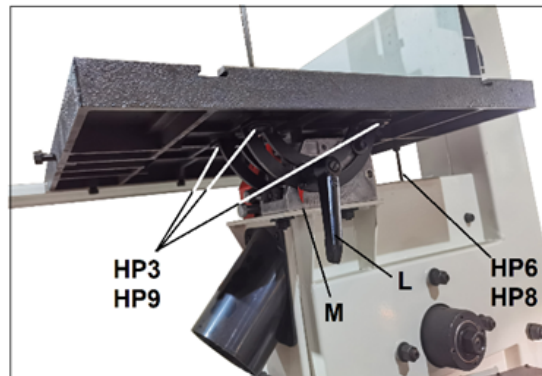

Figure 5-15: table alignments
4. When parallelism is achieved (and blade is still centered through table insert), securely tighten the four trunnion screws (HP3, Figure 5-15).
1. Insert stop screw with nut (see HP6/8, Figure 5-15) into threaded hole in table.
3. Loosen lock handle (L) and manually tilt table until table and blade are square.
4. Tighten lock handle (L).
6. If needed, loosen screw and move pointer (M, Figure 5-15) to align with zero on scale. Retighten screw.